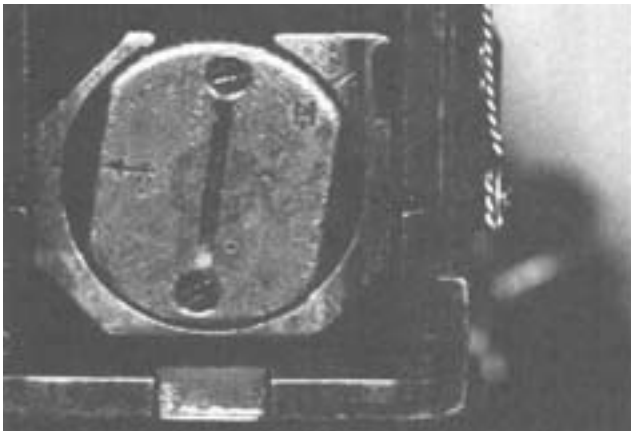

Figure 4-10. Driving Spring Rod Assembly.
d. Driving Spring Rod Assembly. The inner and outer driving springs and driving spring rod are located inside the receiver next to the right side plate (see figure 4-10). Push in and to the left on the head of the driving spring rod to remove it. Push to the left to remove the driving spring rod-retaining pin from its seat in the right side plate. Pull the driving spring assembly to the rear and out of the receiver.